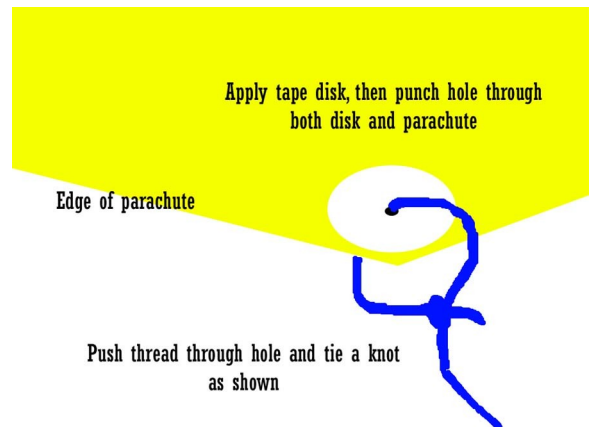

Figure 6
- Step 15** Assemble the SEMROC parachute according to the instructions included in the package, with the modification in this step. As shown in Fig. 6 above, apply the tape disks to the parachute first, then punch a small hole through the center of the disk. Push the shroud line through this hole, then tie the line. Pull the shroud lines together, then attach the swivel end of the second snap link to the combined lines. Do not attach the parachute to the rocket at this time.